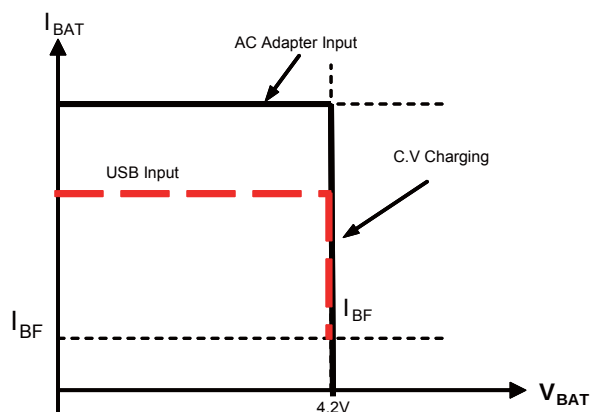

Figure 2—MP26056 Typical Charging Profile
Figure 2 below shows the typical charging profile for the MP26056. The MP26056 will start with the Constant Current charge of the programmed value ( $I_{\text{CHG}}$ ) based on  $R_{\text{setx}}$ . This is referred to as Constant Current (CC) mode. Once the battery voltage reaches 4.2V, the charger will operate in the constant voltage (CV) mode until the battery is fully charged. The charge current drops during CV mode, and the battery full indication is set when the charge current reduced to the preset value based on  $R_{\text{IBF}}$ , but the charger keeps charging the battery until battery reach 4.2V when AC adaptor is used as supply. If USB is